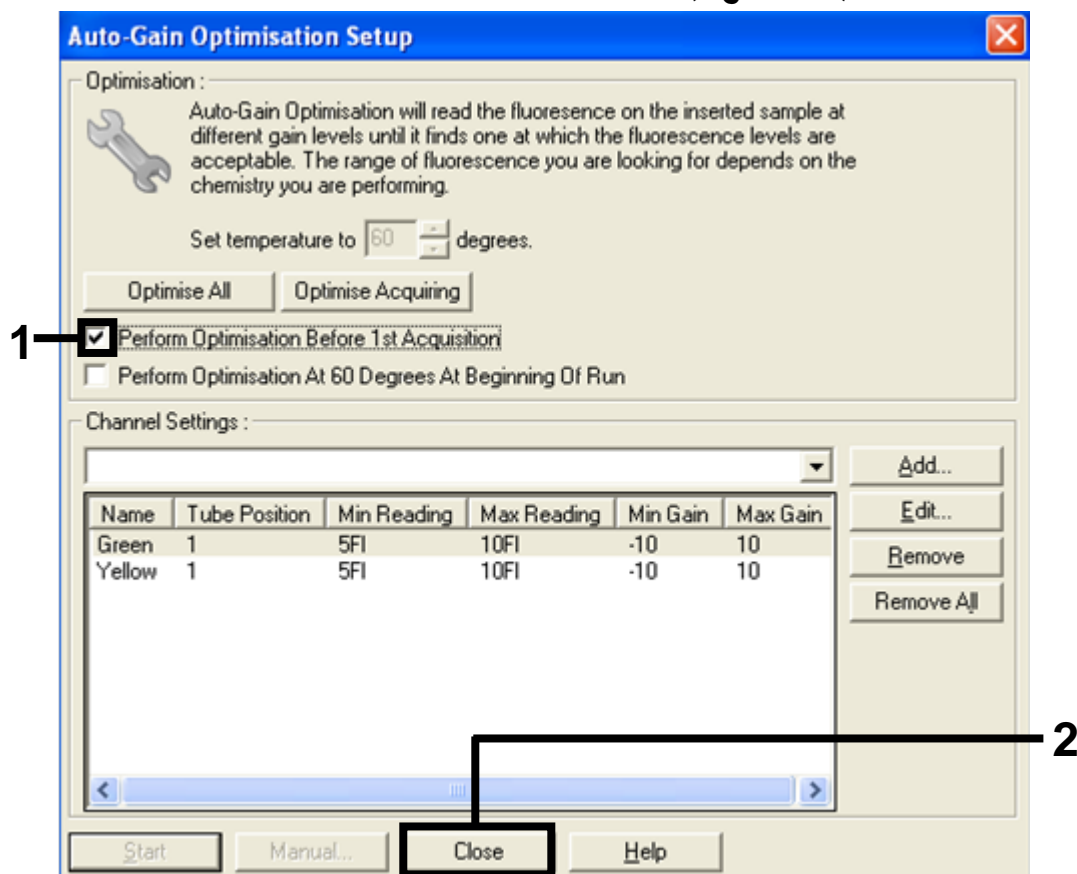

Figure 20. Selection of green and yellow channels. 1 = Check box “Perform Optimisation Before 1st Acquisition”, 2 = “Close” button.
14. Check the “Perform Optimisation before 1st Acquisition” box, and then click the “Close” button to return to the wizard (Figure 20).